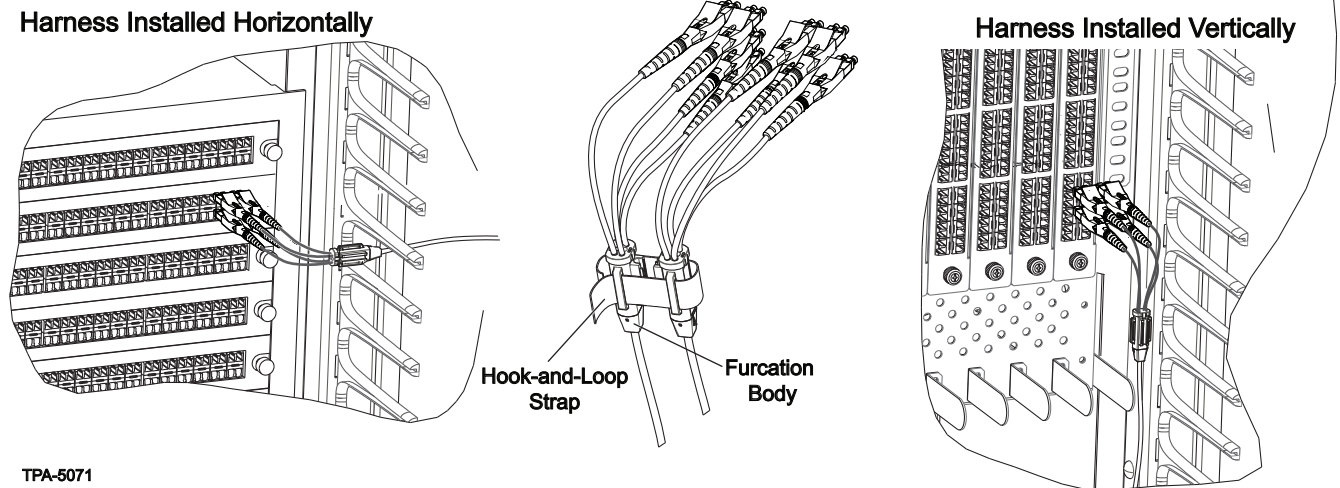

Figure 26 — Typical Harness Configurations
Step 5: Clean the connectors at the end of the harness, jumper, or trunk and mate in the electronics equipment as illustrated in Figure 26 per instructions provided with that equipment or according to your installation plan.